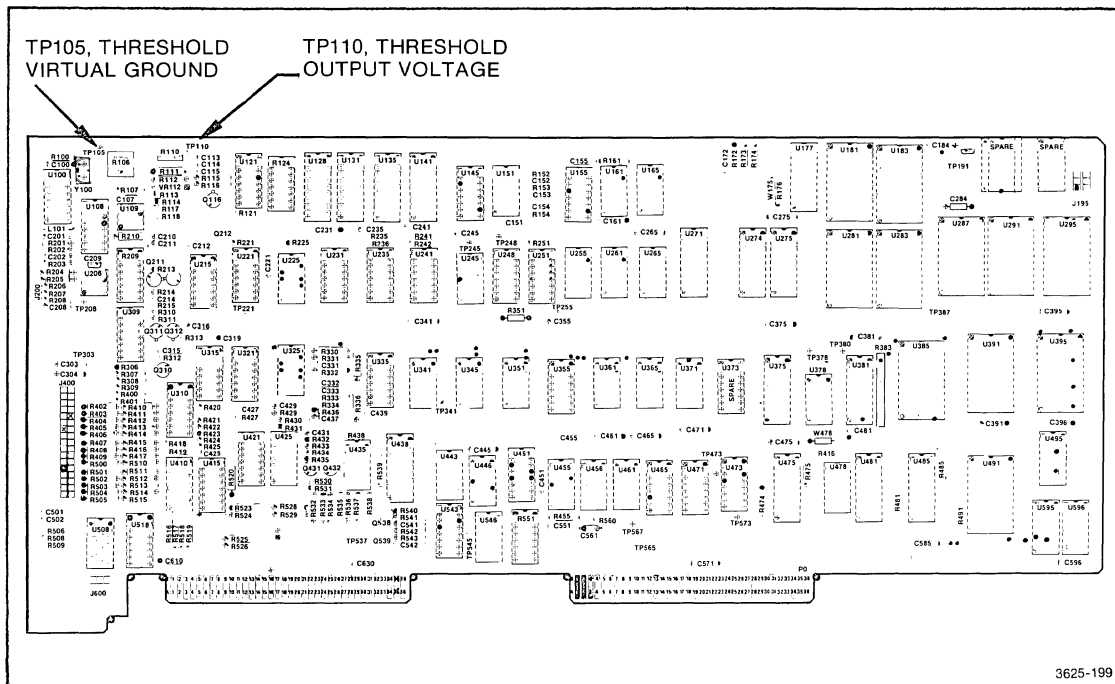

Figure 5-72. Test points on the Trigger/Time Base used in this performance check.
8. Connect the DMM to read the voltage between TP105 (ground) and TP208 (positive) on the Trigger/Time Base board (see Figure 5-72).
7. Set the slide switch on the back of the external clock probe back to the normal position. Disconnect the DMM from the Trigger/Time Base board. Attach the ground of one channel of the oscilloscope to TP105 on the Trigger/Time Base board. Attach the input of the oscilloscope channel to TP208 (see Figure 5-72).